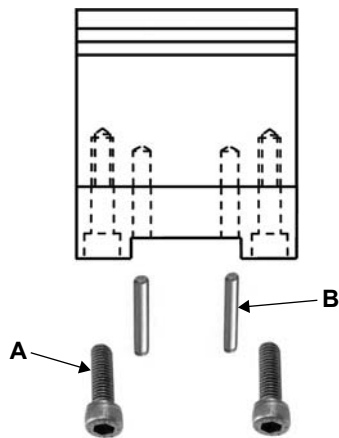

Figure 11
- j. The fasteners shown in Figure 11 will be used to fasten the fixed jaw to the base.